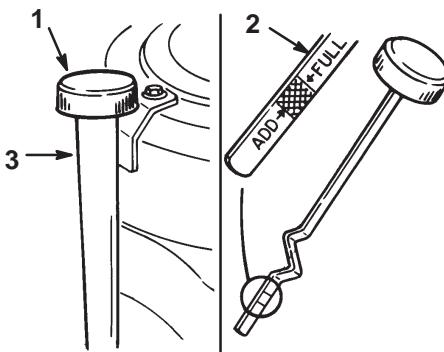

Figure 28
3. Clean around the oil dipstick (Fig. 28) so dirt cannot fall into the filler hole and damage the engine.
4. Unscrew the oil dipstick and wipe the metal end clean (Fig. 28).
5. Thread the oil dipstick fully onto the filler tube (Fig. 28). Pull the dipstick out and look at the metal end. If oil level is low, slowly pour only enough oil into the filler tube to raise the level to the full mark.
9. Slowly pour approximately 80% of the specified oil, page 31, into the filler tube (Fig. 28).